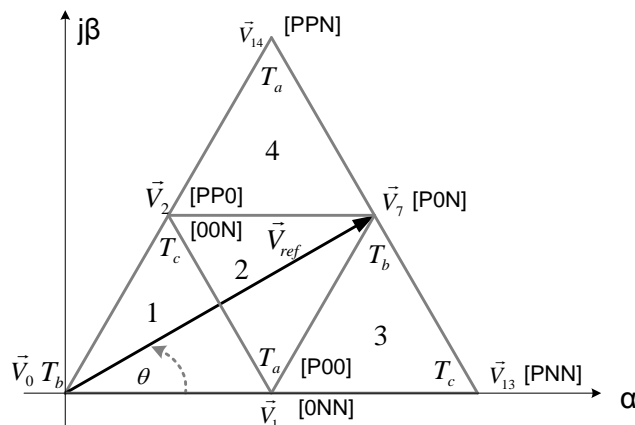

Figure 2.2 Space vector diagram
- c. The reference vector \vec{V}_{ref} of the inverter is in Sector I as shown in figure 2.2. The inverter is modulated by Space Vector Modulation. The sampling frequency is 10 kHz and the fundamental period of the output voltage is 20ms. The reference vector \vec{V}_{ref} is at the position $\theta = 30^\circ$, as shown in figure 2.2. Calculate the magnitude and position of the two subsequent reference vectors.